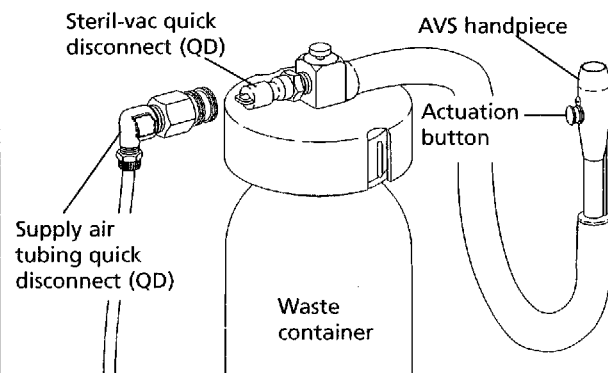

Figure 35. Steril-Vac
Air is supplied by attaching the quick disconnect (QD) tubing to the steril-vac QD (see Figure 35).
To actuate the vacuum, press and hold the button on the AVS handpiece (see Figure 35). The button is spring loaded to the Off position.